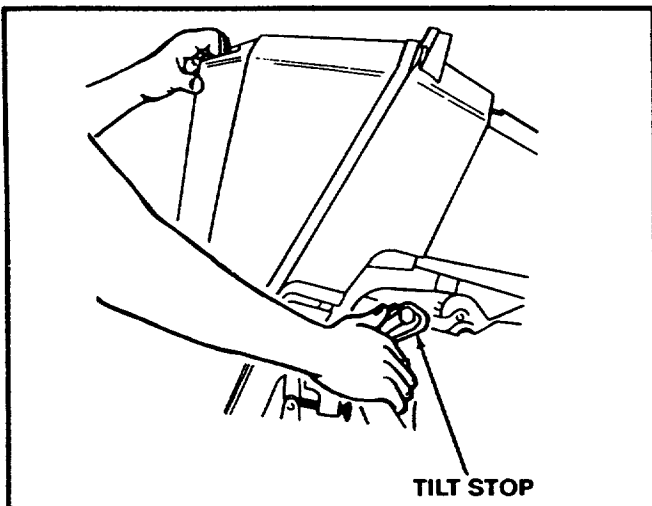

FIGURE 7
- Grasp handle on back of motor cover and pull forward until end of travel of tilt stop. Push tilt stop down to lock motor in tilt position. (Figure 7)